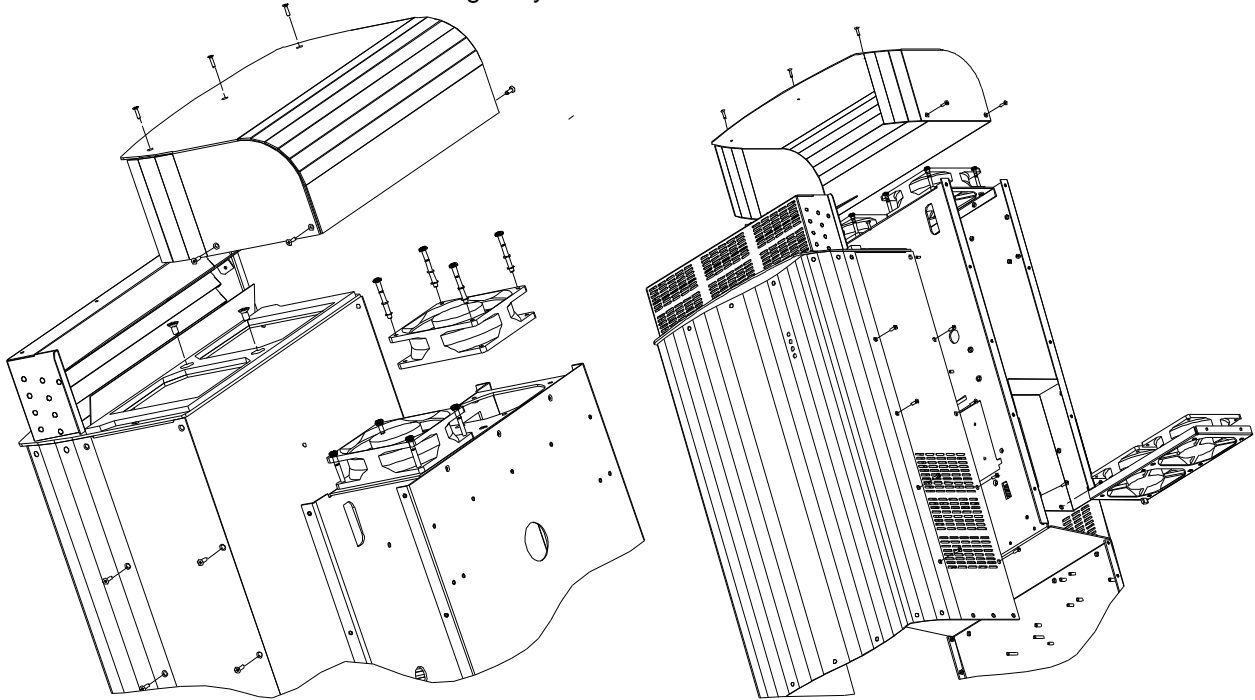

Figure 20: Top cover removal and fan replacement
2. Remove two screws on each side of the fan tray assembly (right side, Figure 20)